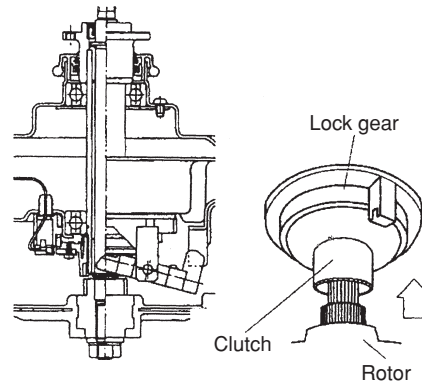

Fig.3 Clutch condition during washing operation
- 1) When washing operation is performed, the teeth on the top of the clutch fit into the teeth of the lock gear on the upper part of the product (on cup assy side). Fig.3